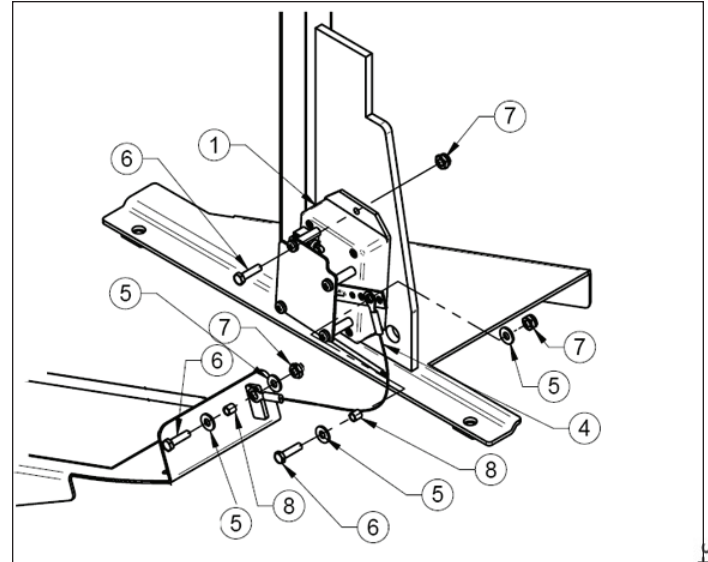

Figure 5-3. Accelerator and Speed Switch
1. Note location of wires and connections. Disconnect white wire (10) and black wire (11) coming from speed switch and going to wiring harness.
2. Disconnect black wire (12) and black wires (4 & 14) from spade lugs on micro switch.
3. Remove one nut (7), two washers (5), spacer (8) and bolt (6). Remove cable from pedal (Figure 5-3).
4. If vehicle is equipped with early style Linemaster switch, remove two nuts (7), two bolts (6) and speed switch (1). If vehicle is equipped with later style CPC switch, remove four nuts (7), four bolts (6) and speed switch.
5. Set speed switch (1) into place on frame mount. If replacing an early style Linemaster switch with a later style CPC switch, additional mounting holes will need to be drilled.
6. Install the switch with bolts (6) and lock nuts (7). Do not tighten nuts at this time.
7. Connect lanyard (4) using bolt (6), washers (5), spacer (8) and lock nut (7).